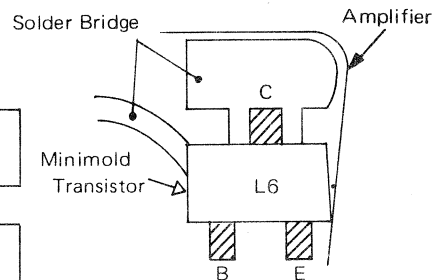

Figure 1
- A bridge has been formed with solder between minimold transistor C (collector) and B (base) (see Figure 1).